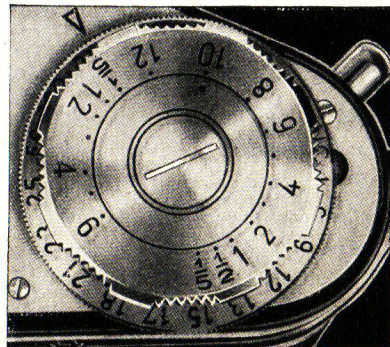

Fig. 12
(3), remains open as long as the knob is pressed, and closes as soon as the pressure ceases. When knob (8) is set on T, the shutter opens after pressure on the release knob (3) and remains open till the release knob (3) is pressed again. These two settings (B and T) are used for long time exposures over 12 seconds, because the time setting work of the EXAKTA VX allows for exposure times up to 12 seconds (see below!). Longer exposure times than 12 sec. are controlled by counting the seconds or with a watch. In this case you must definitely use a tripod (camera retaining screw (42) on camera base) or place the camera on a stable support (table, wall, etc.). whereas fast exposures of $1/25$ down to $1/1000$ sec. are possible as "hand-held" shots. With the slow speed knob (17) it is possible to set exposure times longer than $1/25$ sec. (17) (Fig. 12). The fractions of seconds (e. g. $1/5$ sec.) are indicated on the slow speed knob (17) as fractional numbers, while all the whole numbers mean full seconds (e. g. 1=1 sec., 2=2 sec. etc.). The black figures are for exposures immediately after releasing. The red marks, however, indicate that the shutter opens about 13 seconds after releasing, the self-timer permitting yourself to step into the picture. In other words, the photographer operating the camera can take a picture of himself. The time regulation mechanism and the self-timer of the EXAKTA VX Ila function practically free from noise and must be operated strictly as follows:
- a) Set the fast speed knob (8) on T or B.
- b) Before handling the slow speed knob (17) cock the shutter by swinging around the film transport lever (6) as far